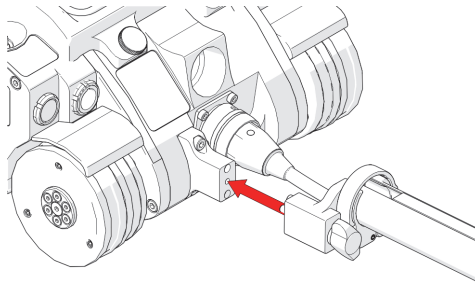

Figure 2-116 Align with umbilical
1. Align the cable management clamp with the appropriate mounting position on the user umbilical breakout (see Figure 2-116 on page 122).